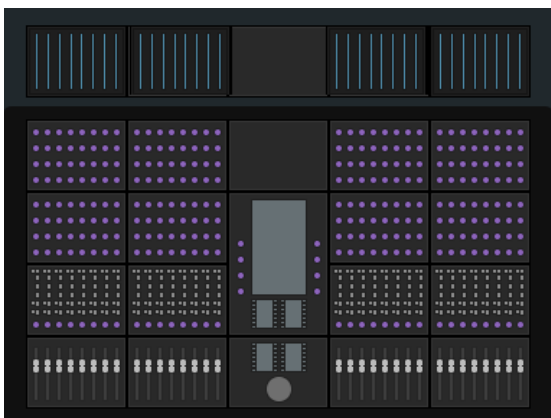

Figure 2. 32-strip S6 M40 arrangement with Display Modules
Figure 2 shows one possible arrangement for an S6 M40 32-9-D configuration: Four Fader Modules (32 strips), four Process Modules (1 knob per strip), eight Knob Modules (8 knobs per strip), and four Display Modules (D), for a total 9 knobs per strip.